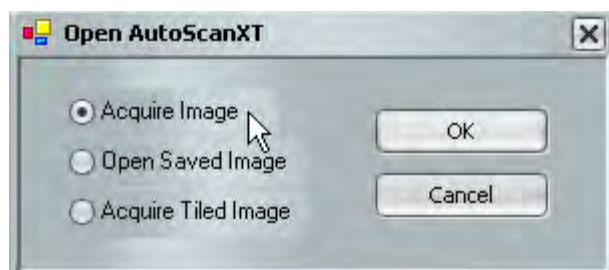

Figure 2. Acquire New Image.
5. In the AutoScanXT window, select “Acquire Image” and then click OK (Figure 2).